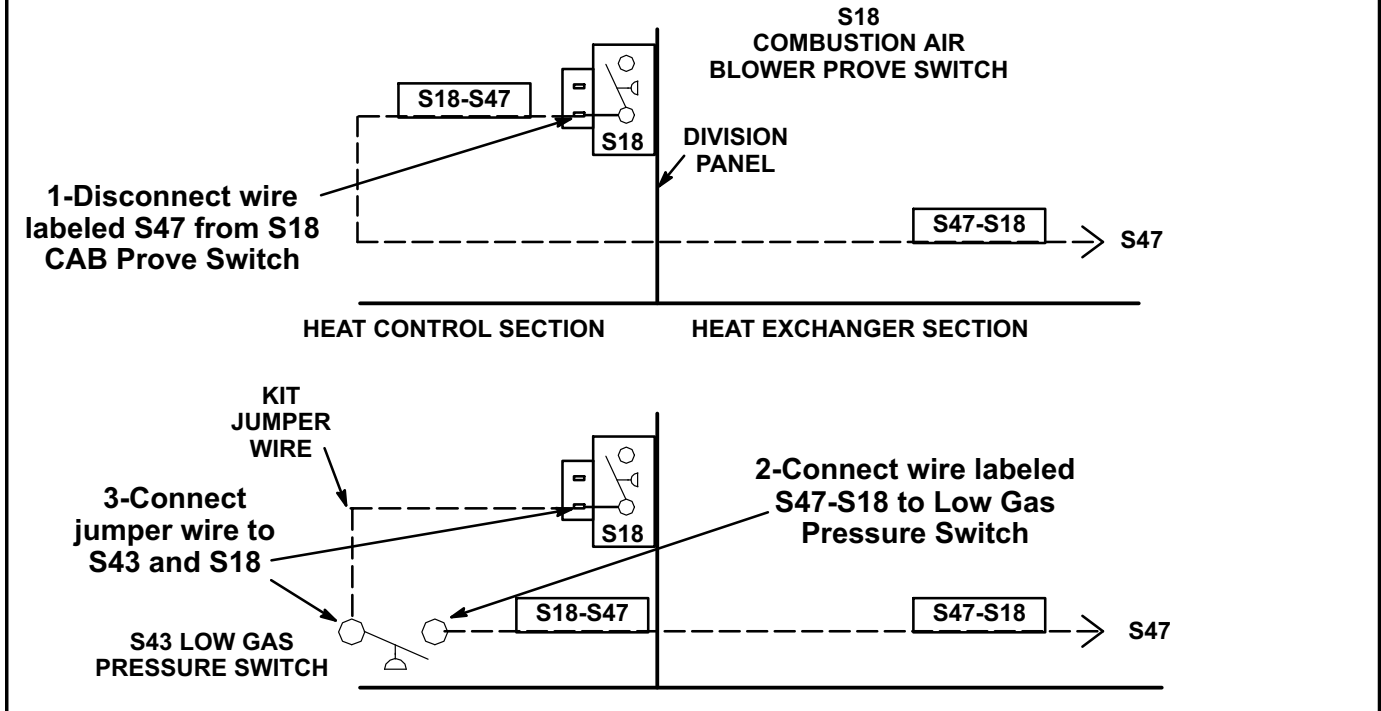

FIGURE 8
- 6- Locate S18 combustion air prove switch and disconnect wire labeled S18-S47 or P1-5-S18. See figure 8 or 9.
Reattach wire marked S18-S47 to S43 LP low pressure switch on gas valve. See figure 8.
Connect the jumper wire provided in this kit to S43 pressure switch and S18 combustion air prove switch. See Figure 8.